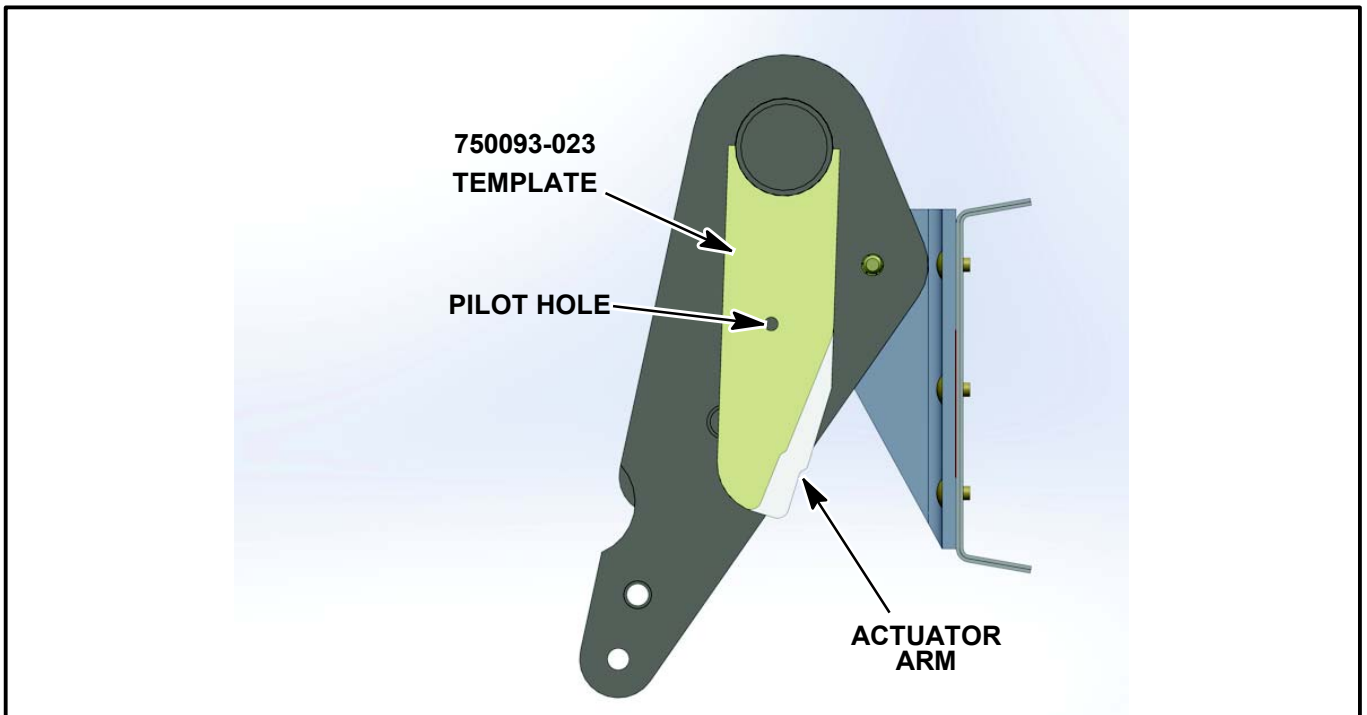

Figure SIM20-142-11 - MATCH DRILL ACTUATOR ARM
- 1.12. Match drill pilot hole in the template 750093-023 to the actuator arm with a .125" drill bit. (Refer to Figure SIM20-142-11.)